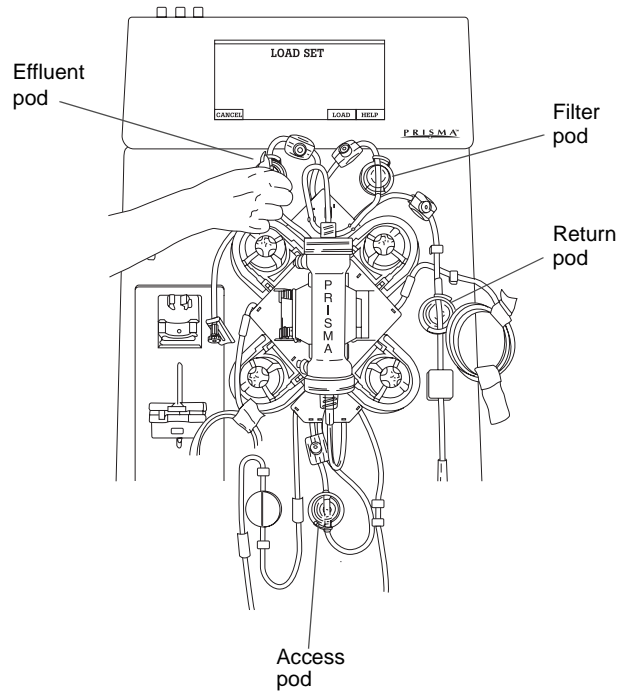

Figure 2-2. Positioning PRISMA Set for CRRT on the Control Unit
6. Position the PRISMA Set for CRRT onto the control unit. This includes (a) placing the cartridge of the set in the cartridge carrier, (b) routing lines of the set through tubing guides, air detector, and blood leak detector, (c) hanging the effluent bag on the effluent scale hook, and (d) attaching the pressure pods to the pressure sensor housings. See Figure 2-2.